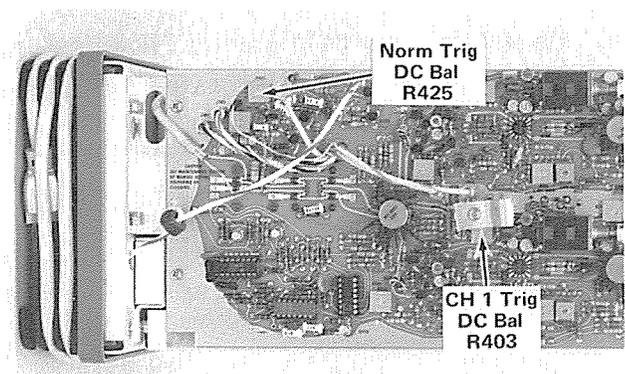

Fig. 5-21. Location of Normal Trigger DC Balance and CH 1 Trigger DC Balance adjustments.
e. ADJUST—Normal Trigger DC Balance adjustment, R425 (see Fig. 5-21), so that the display begins at the same DC level when switching the A COUPLING switch from DC to AC.
h. ADJUST—CH 1 Trigger DC Balance adjustment, R403 (see Fig. 5-21), so that the display begins at the same DC level when switching the A COUPLING switch from DC to AC.